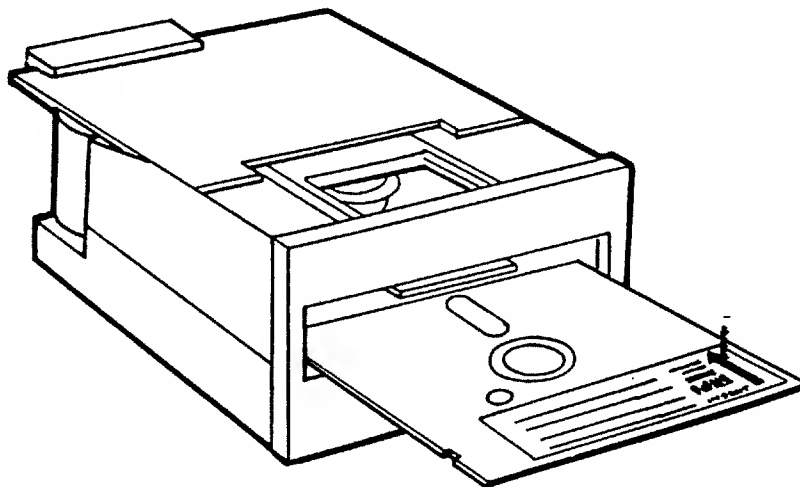

Figure 2-2: Diskette Orientation
- C. Remove diskette from its storage envelope and insert in the drive. The index hole must be on the left side of the jacket and the label on the right towards the door. Push the diskette forward until a "click" is heard. (See Figure 2-2).